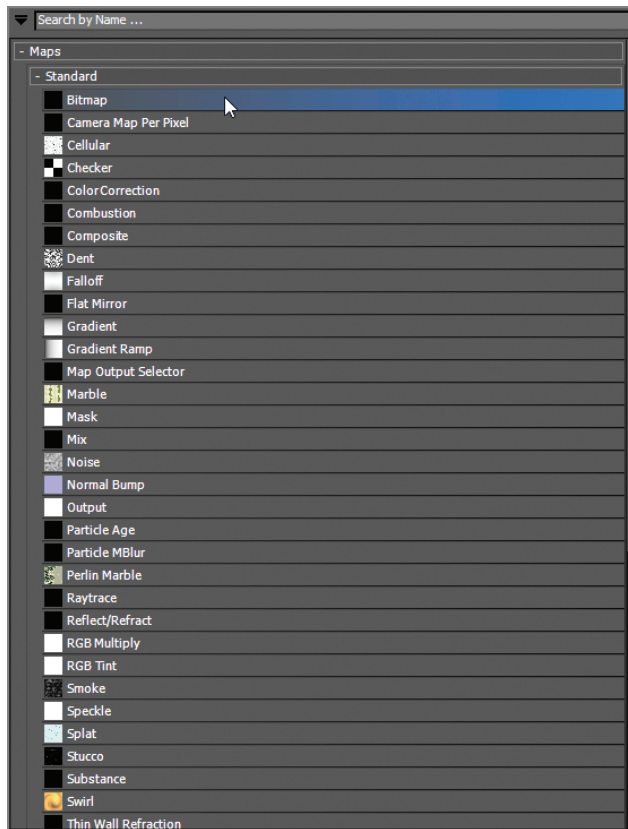

FIGURE 10.7 Choose Bitmap in the Material/Map Browser > Maps > Standard rollout to add an image to your material.
2. This brings up a separate Material/Map Browser; in the Maps > Standard rollout, choose Bitmap and click OK (Figure 10.7).